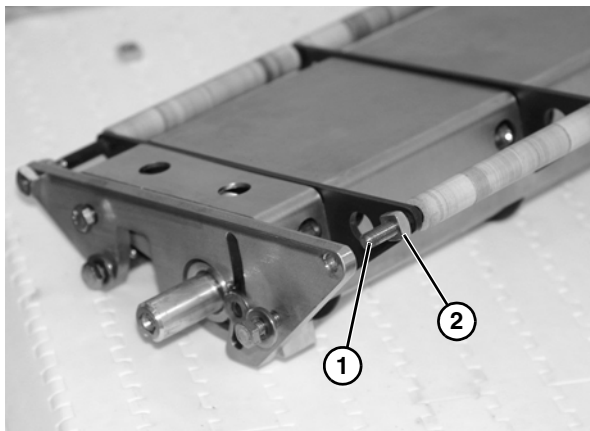

Figure 31
3. Slide rod (**Figure 31, item 1**) inward and remove the inner nut (**Figure 31, item 2**).